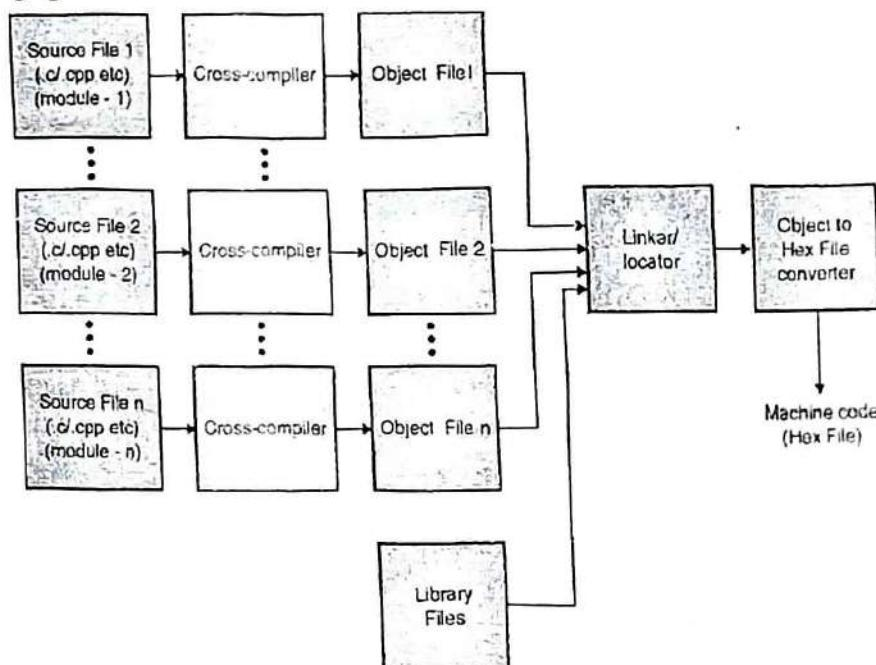

Fig. 3.1.1: High level language to machine language translation process
- Fig. 3.1.1 shows the conversion process that can translate the program written in high level language to corresponding machine language.